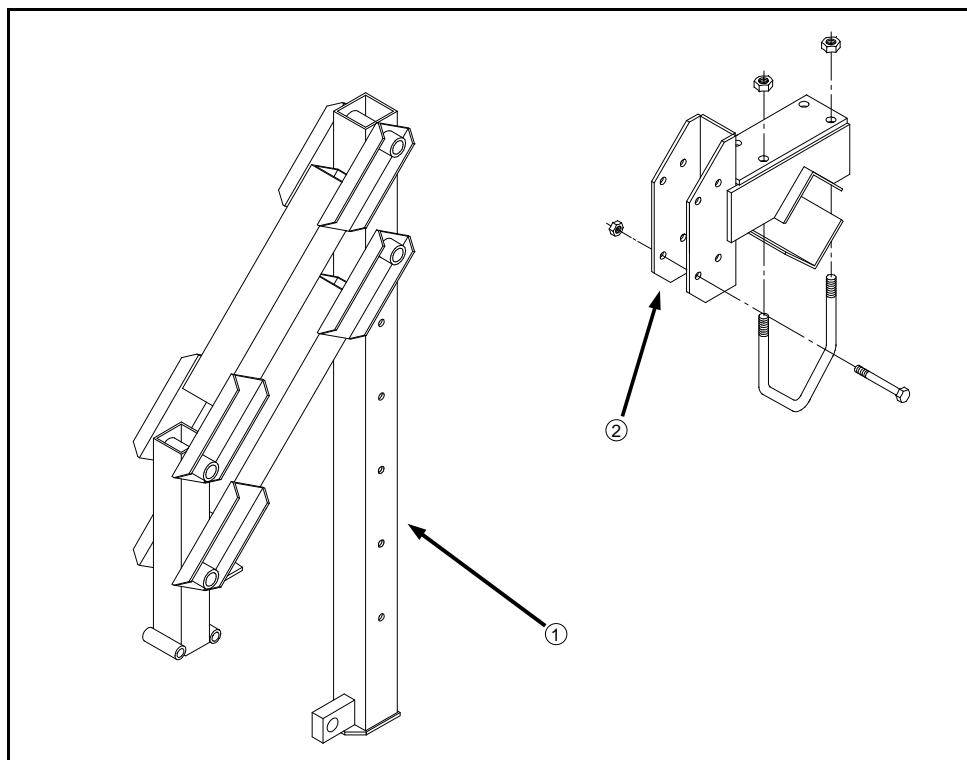

FIG 4.9
1. Attach the lift mounts (fig. 4.9, item 2) to the tool bar and outriggers at the appropriate spacings.
2. Attach the lift arms (fig. 4.9, item 1) to the lift mounts.